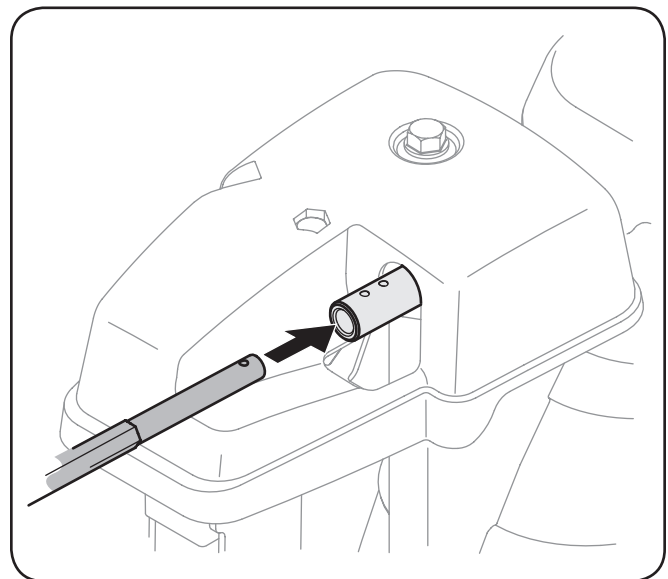

Figure 3-6
6. Insert hex rod into chute control head. Push rod as far into chute control head as possible, keeping the hole in the hex rod pointing upward. See Fig. 3-6.